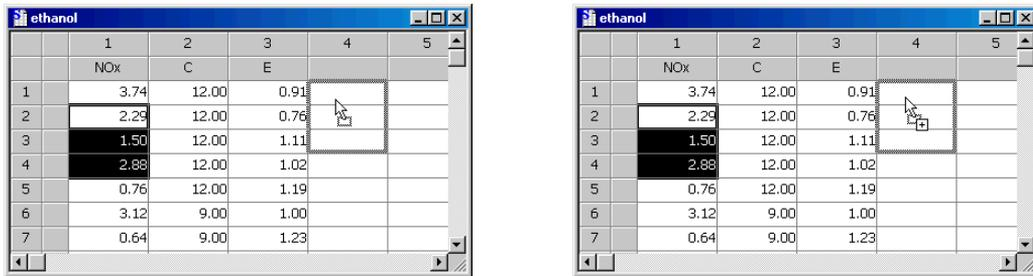

Figure 2.18: Moving (above left) and copying (above right) a block of cells in a **Data** window.
3. Drag the selected cell or block to the new location. To move the cell or block, simply release the mouse button. To copy the cell or block, press and hold down the CTRL key while releasing the mouse button. See Figure 2.18.